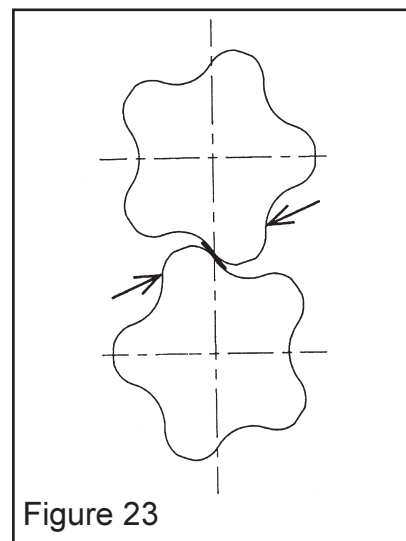
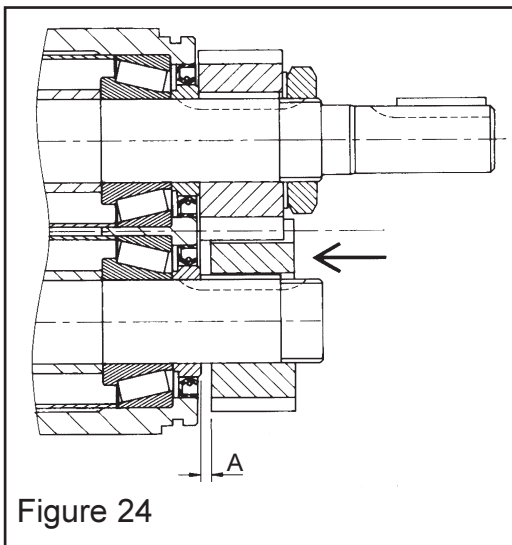

Figure 23
Figure 24
b) Pinch a 0.15mm (0.006 inch) feeler blade between two lobes - see Figure 23.
c) Push both gears forward. If both gears contact their gear spacers, fit tab washers (11) and nuts (12) to both shafts, then continue from (d) below.
If one gear leaves a gap "A" - see Figure 24 - measure this gap with feeler gauges. Fit tab washer (11) and nut (12) to the other shaft, hand tight only. Still gripping the feeler between the rotors, pull the loose gear back and